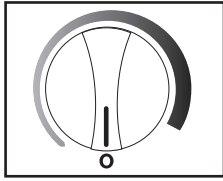

Fig. 14
- To turn off the freezer (no cooling) rotate the control knob to the "0" (off) position. See Fig. 14.